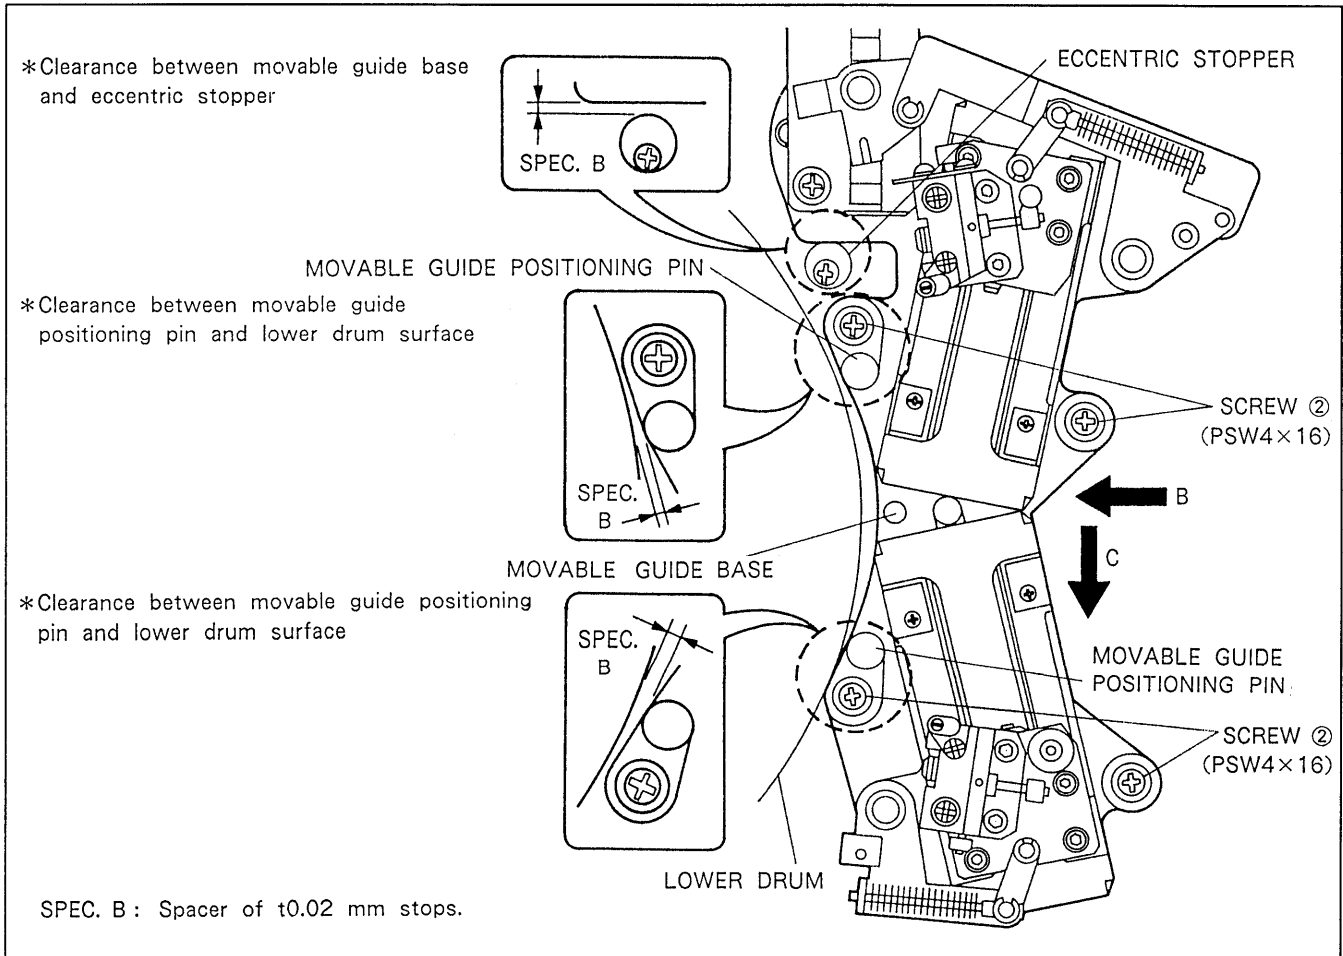

Fig. 6-2-8. Position Adjustment of the Movable Guide Assembly
17. While pressing the movable guide assembly toward drum and in the directions of arrow B and arrow C at the same time, as shown in Fig. 6-2-8, tighten the four screws ②. After tightening, the clearance of three positions where are marked by asterisk "*", meet the specification B.